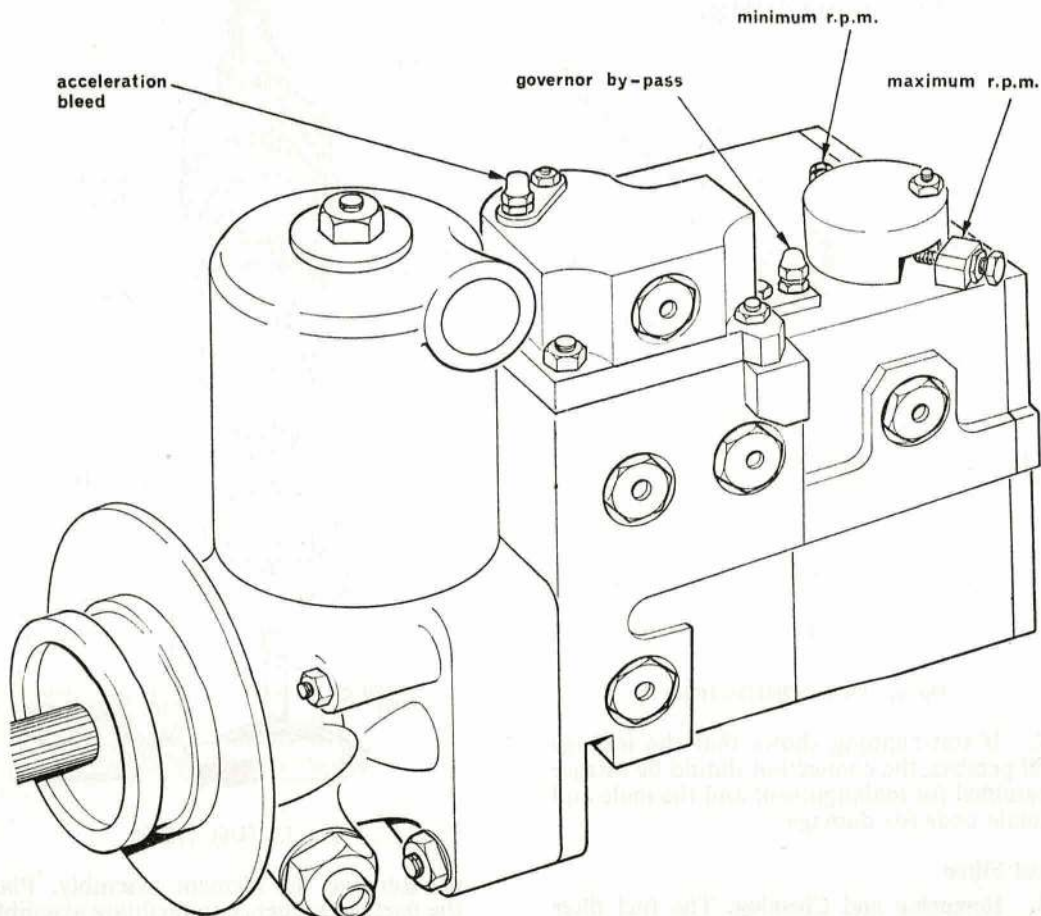

Fig. 8. FUEL CONTROL UNIT ADJUSTMENTS
47. The following adjustments can be made with the fuel control unit mounted on the engine. After each adjustment has been made the effect must be observed and, if necessary, further adjustment made. The positions of the screws are shown on Fig. 8.